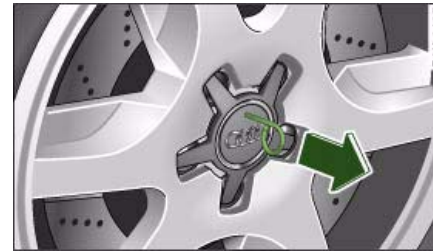

Fig. 241 Changing a wheel: Removing a hub cap
- Pull off the **hub cap** ⇒ *fig. 241*. ■
- Pull off the **hub cap** ⇒ *page 261*, fig. 241.
- Insert the adapter ② completely into the wheel bolt ①.
- Fit the box spanner as far as it will go over the adapter ②.